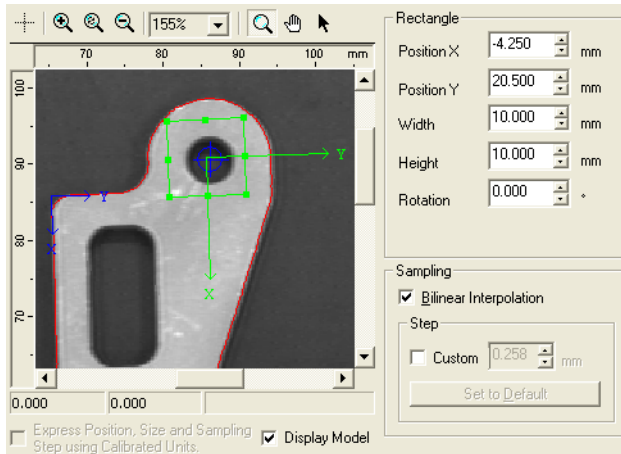

Figure 35 Adjusting the Size, Position and Orientation of the Blob Analyzer Rectangle
9. Place the Rectangle on the part as shown in Figure 35. Click the center of the Rectangle and drag it into position. Use the corner and side handles to adjust the width and height of the Rectangle. Fine-tune the position with the text boxes if needed. Once the Rectangle is placed, click **Execute**.